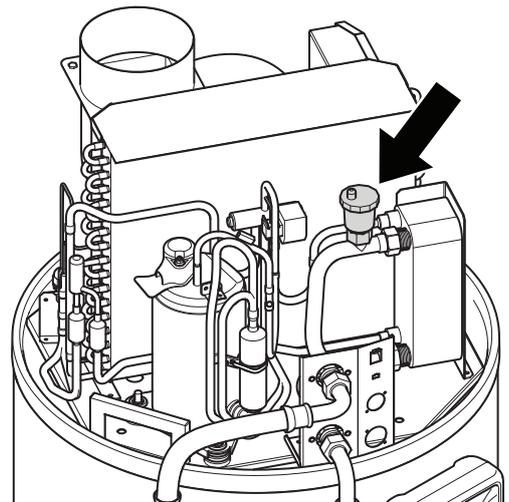

Fig. 33
8. Locate the auto air vent on the head unit (Fig. 33) and loosen the cap.